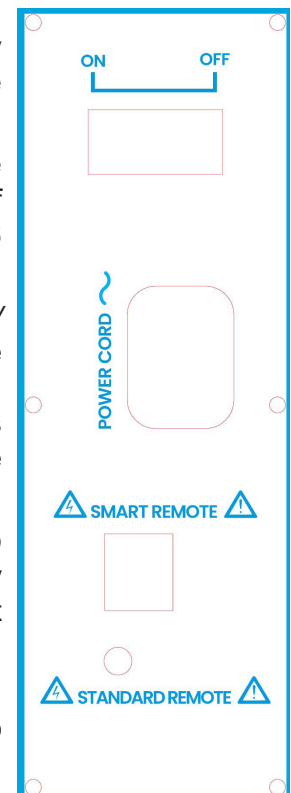

Fig. 8
- a. With the unit’s Main Disconnect Switch *OFF*, plug in the *Standard Remote* headphone jack into the port on the back of the unit labeled *STANDARD REMOTE* (Fig. 8). Plug in up to 6 stations into the ports on top of the *Standard Remote* box.
- a. With the unit's Main Disconnect Switch *OFF*, plug in one end of the Smart Remote Hub's ethernet cable into the port labeled *SMART REMOTE* on back of the V-Six (Fig. 8), and the other end into the V-Six Smart Remote box. Plug in up to 6 stations into the ports on top of the V-Six Smart Remote box.